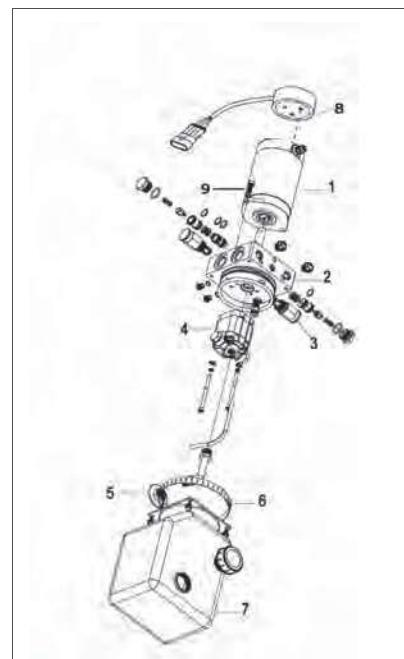

Figure 5-9 Steering Pump Motor
3. Remove the two screws (9) on the motor base and remove the pump motor (1, Figure 5-9) from the valve body.
4. Remove the steering encoder (8) from the end of the pump motor.